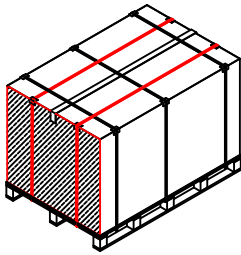

Figure 1
1. Cut the two longitudinal security straps, then carefully cut and remove the cardboard of one short side of the box, as showed in Figure 1. Pay attention to not damage the modules during the cutting process.